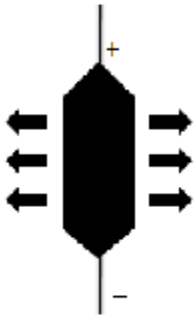

Figure 8
- If the frequency of the applied alternating voltage is equal to the vibrating frequency of the crystal, then the crystal will be thrown into resonant vibration producing ultrasonic waves as shown in figure 8